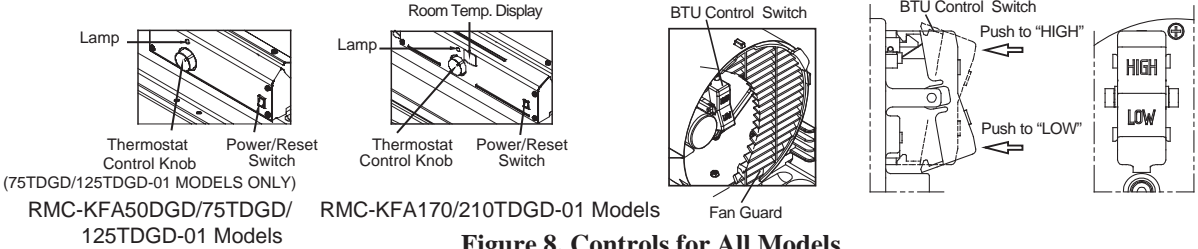

Figure 8. Controls for All Models
5. Push “BTU control Switch” to desired level “High or LOW” (See Figure 8.) (RMC-KFA125/170/210TDGD-01 Models Only)